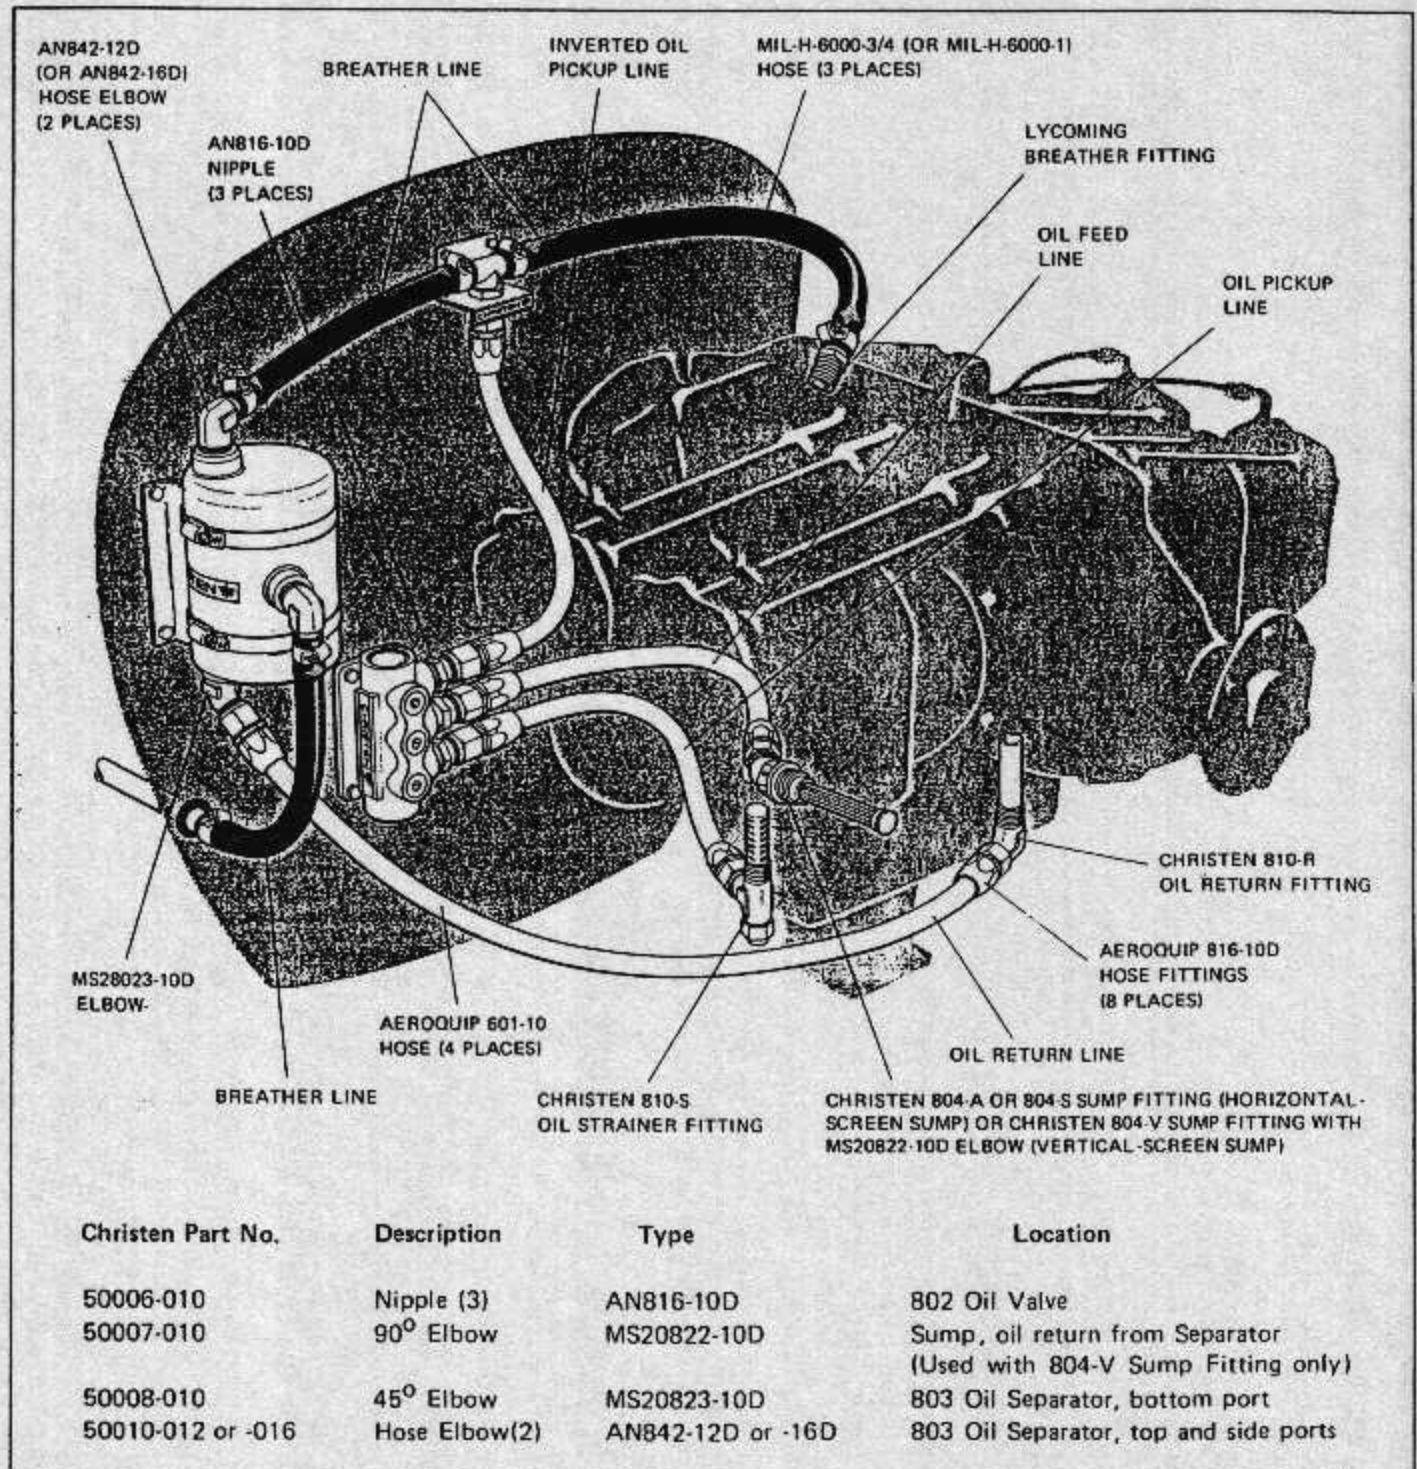

Figure 2-12. Fitting and Hose Locations
10. Install remaining required fittings in all engine and component ports. Normal fitting locations for typical installations are shown in Figure 2-12. Follow techniques discussed in paragraph 2-5, as required.
12. Measure and cut hose for remaining oil lines. Typical hose layout is shown in Figure 2-12. To determine exact cutting length for hose using Aeroquip 816-10D hose fittings, allow exactly 1 inch for each hose fitting.